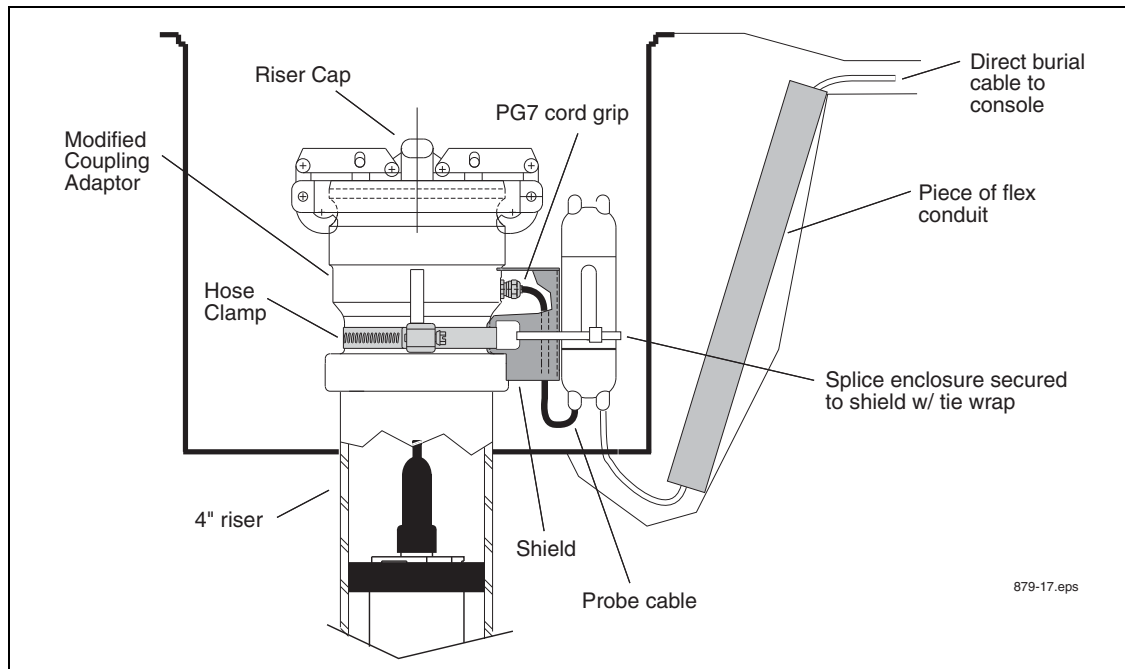

Figure 16. Mag probe vapor extractor riser installation - w/ coupling adaptor
12. Position the Shield-Fitting over the PG7 cord grip and secure with the hose clamp (see Figure 16 on page 25).